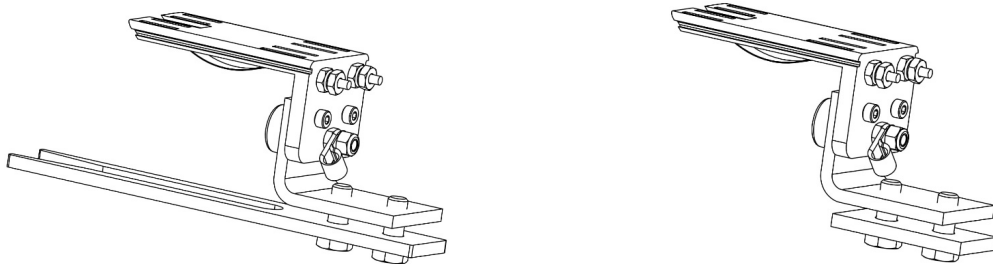

Figure 47: **Configuration for Ceiling Lift Charging Contact (Left) and Configuration for Gantry Charging Contact (Right)**
- c. On the charger endstop assembly of the parallel track, exchange the finger guard with the track endstop plate supplied with the X/Y Gantry Trolley (Figure 47).